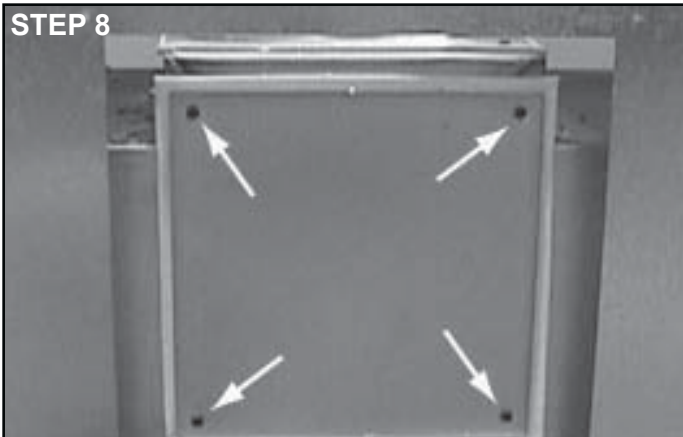

Figure 9.11 Outer Cover, Rear - Remove Plate
- Remove four screws holding outer cover plate to appliance back. See Figure 9.11. Remove outer cover and set aside.